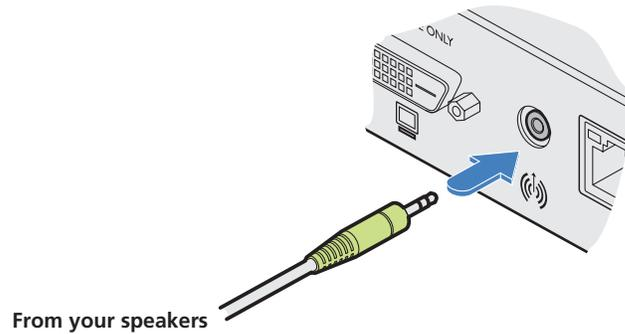

Figure 3-11. Connecting speakers on the rear panel.
1. Connect your speakers to the audio socket on the remote module rear panel. See Figure 3-11.